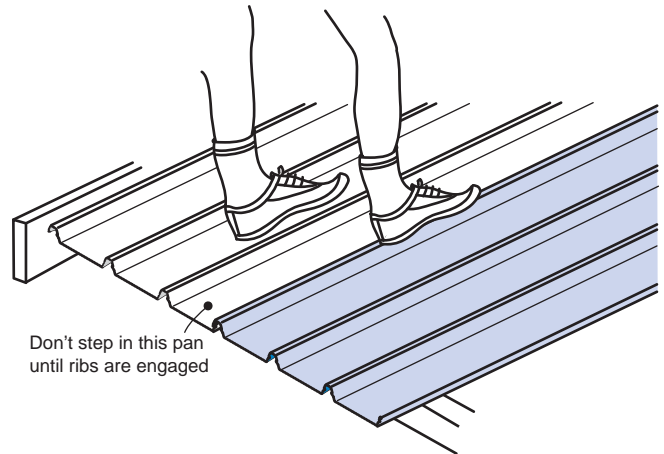

Figure 5
10. Engage the sheet with clips using vertical foot pressure on all the ribs over each clip. (Figure 5)
14. Fully engage the two sheets along the overlapping rib. You can do this by walking along the full length of the sheet with one foot in the center pan of the previous sheet and the other foot applying vertical pressure to the top of the interlocking ribs at regular intervals. It is important that you don't walk in the unsupported pan beside the overlap (Figure 5)